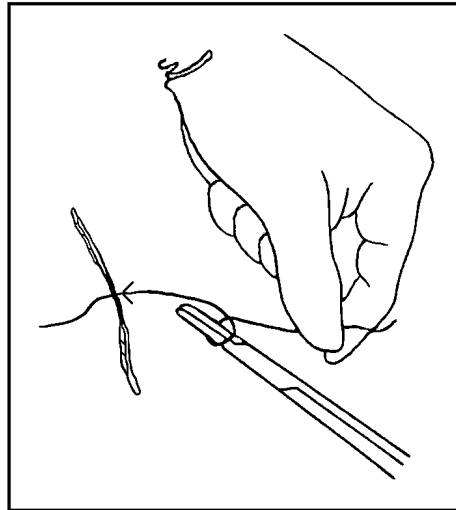

Figure 3-37
- (8) Rotate the tip of the needle holder toward the short end of the suture. (See Figure 3-37.)